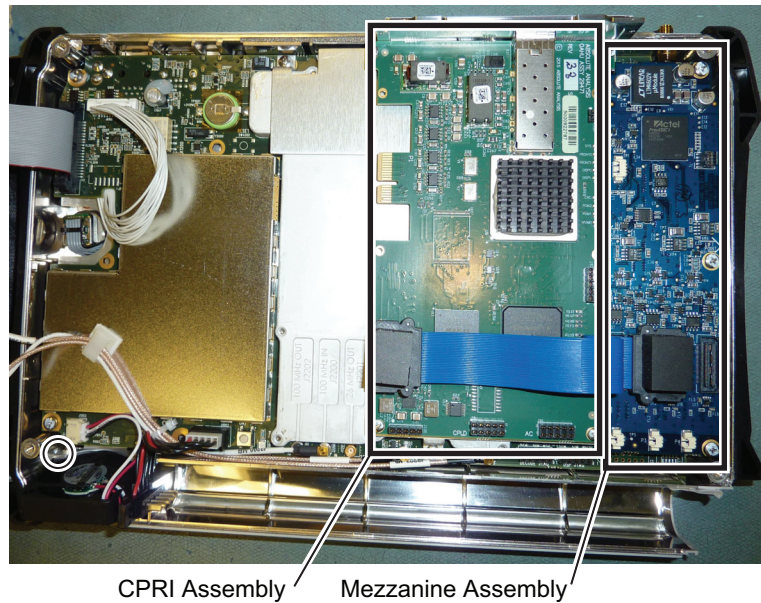
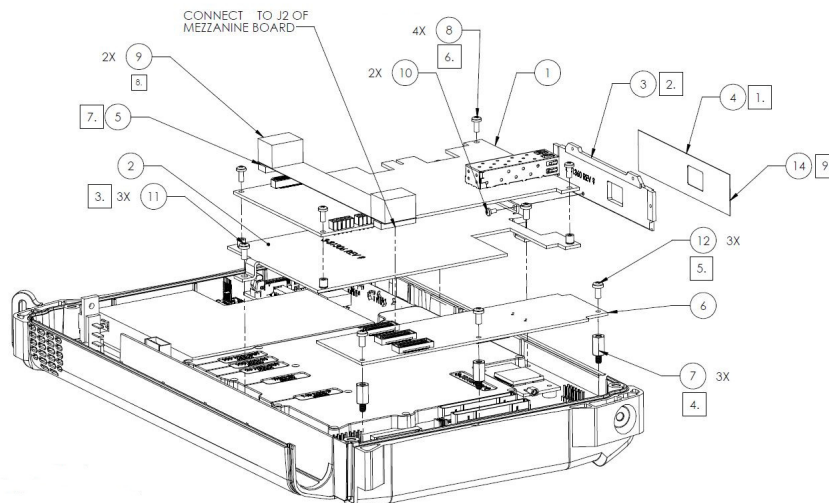

Figure 7-13. CPRI and Mezzanine Assemblies
Figure 7-14. CPRI Assembly (1) and Mezzanine Assemblies (6)
2. See Figure 7-13 and Figure 7-14 for the following key items:
- CPRI Assembly (1)
- Mezzanine Assembly (6)
- High speed cable (5) that is connected from the CPRI Assembly (1) to the middle connector of the Mezzanine Assembly (6).